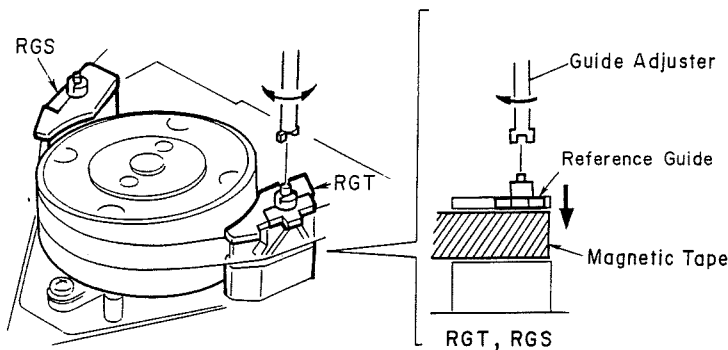

Fig. 6.22 RGS/RGT Height Adjustment
2. Turn RGS/RGT counterclockwise with a Guide Adjuster to raise the Reference Guide. See Fig. 6.22.